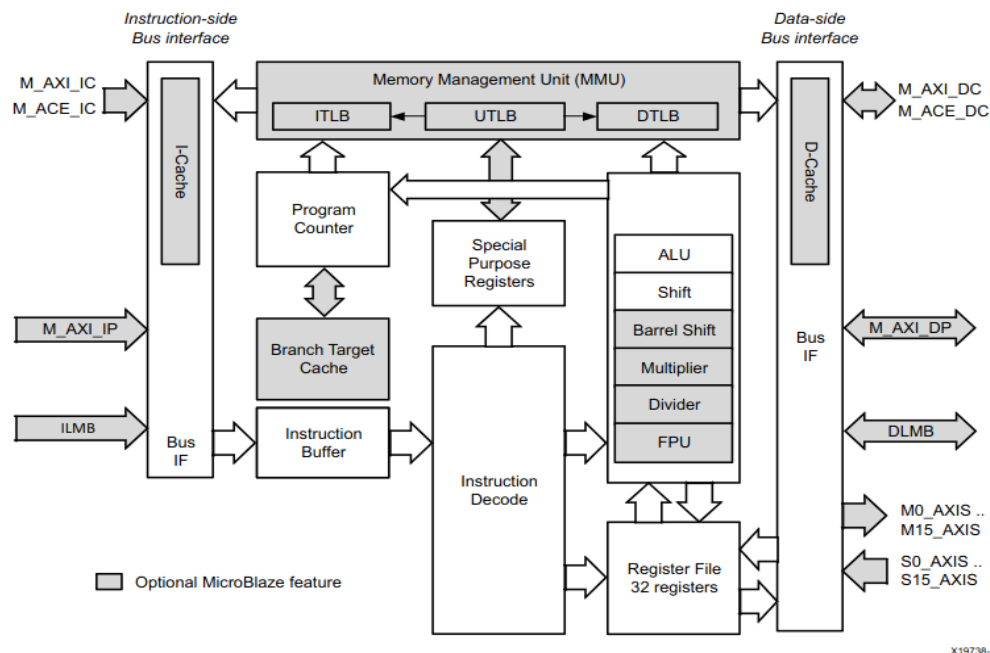

Figure 1: MicroBlaze block diagram
Microblaze [1] is a customisable Intellectual property (IP) core that implements a RISC microprocessor. Figure 1 illustrates the key components, with shaded block denoting optional parts.